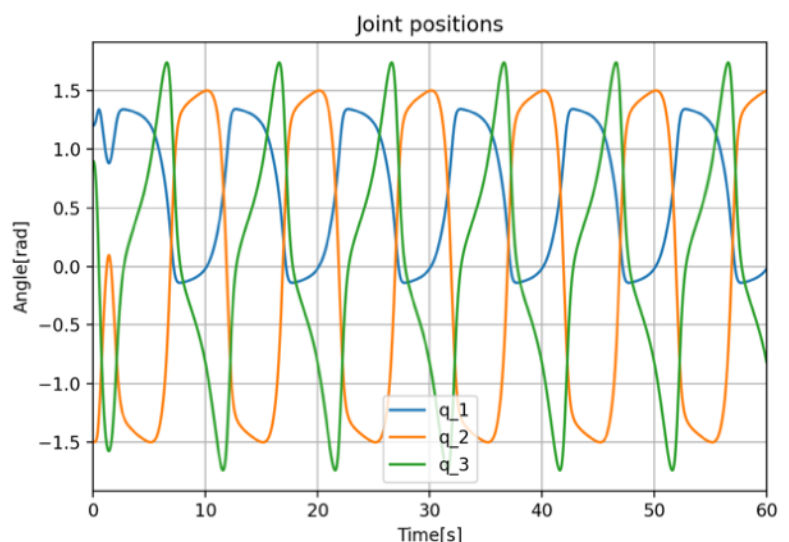

Fig 2. Positions of robot's joints during simulation.
- 4) Plot presenting the evolution of robot's joints positions over time (see Fig. 2).